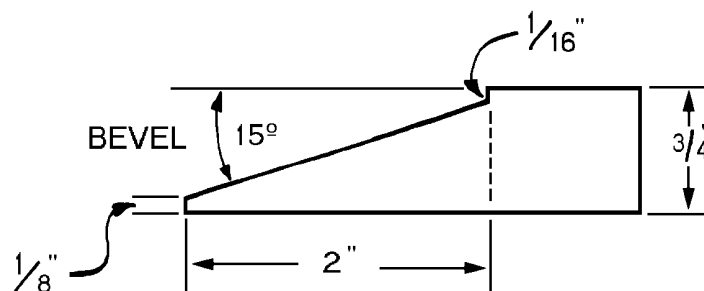

Figure 4
1. Start by cutting four panels (K) from 1 x 8 pine, each measuring 7 x 14-5/8 inches.
2. Set your saw blade to 15 degrees off vertical, and make a 2-inch-long bevel on all four edges of each of the four panels (K). The remaining thickness of the cut side should be 1/8 inch. A diagram of the resulting cut is shown in *Figure 4*.